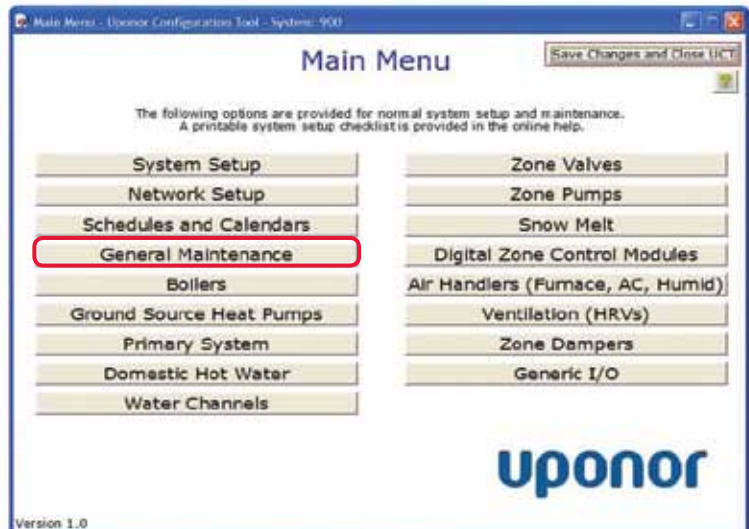

Figure 4.2-1: Main Menu Screen
1. From the **Main Menu** screen, click on the **General Maintenance** button shown in **Figure 4.2-1**.